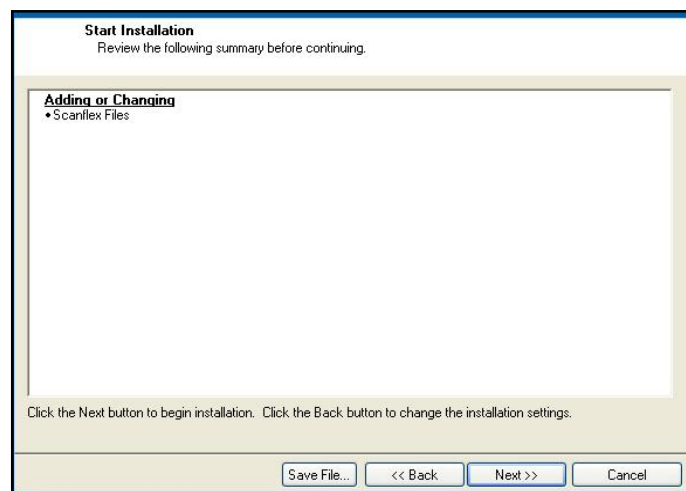

Figure 6. Installation start screen.
4. Click *NEXT* on the start installation screen (Fig. 6).